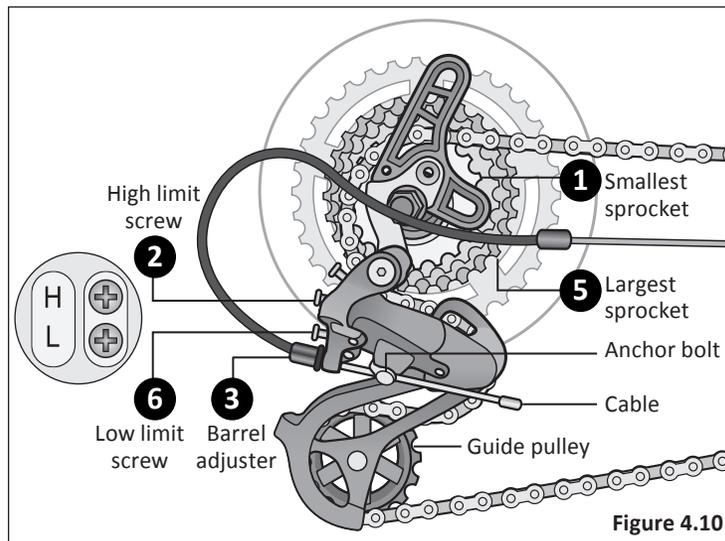

Figure 4.10
- 2 Adjust the high limit screw so the guide pulley and the smallest sprocket are lined up vertically. **Figure 4.10**